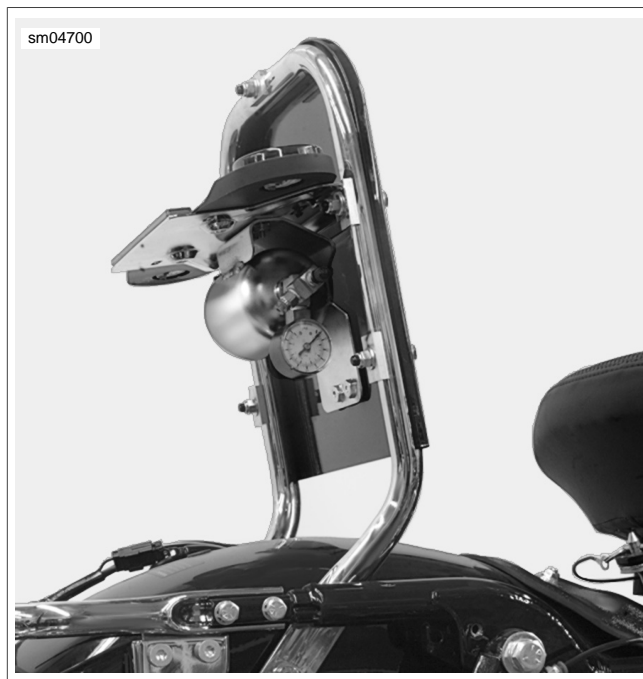

Figure 2-7. Raise Luggage Rack
- Raise luggage rack high enough to access air reservoir. See Figure 2-7.